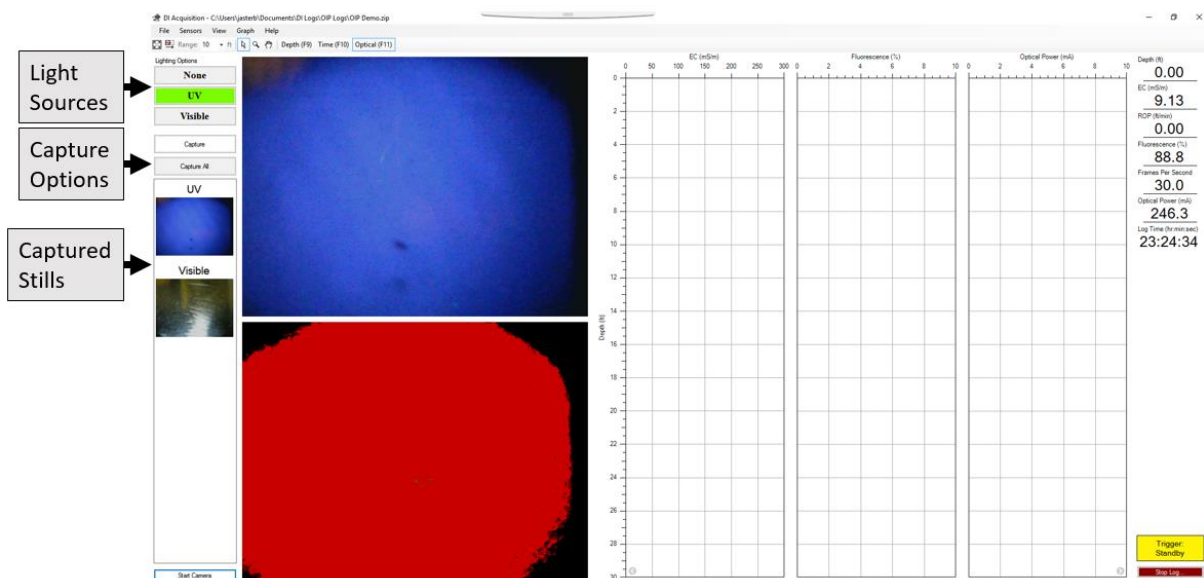

Figure 5.10
3. Wait for the captured stills to appear bellow the capture options (Fig. 5.10) and the light source to return to UV.